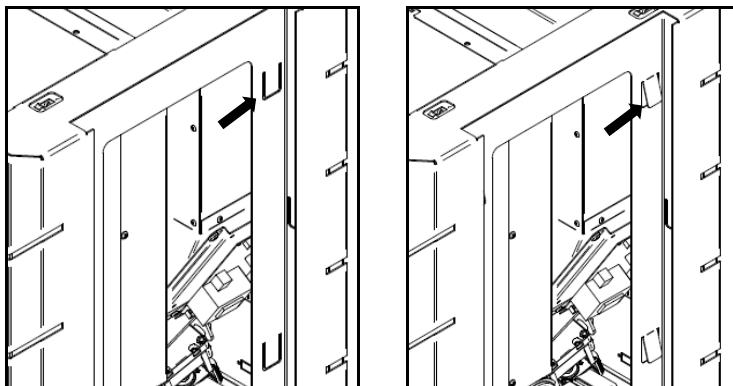

Figure 28 - Ceramics and glass supports
**Note:** To align the grooves in the metallic sides with the grooves in the structure, the hole illustrated in (1) must be positioned at the bottom of the unit.
h) To place Kili's glass or ceramic front panels, before performing the previous procedure, the metal side tabs in the side structure (Figure 28) must be bent inwards to secure the parts onto the structure (there are 6 metal side tabs to bend).